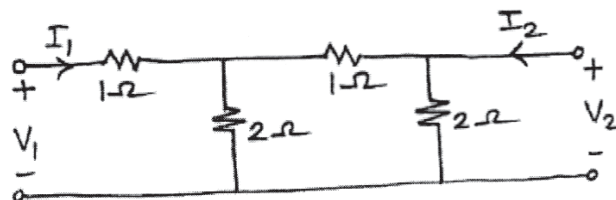

Fig. 10
b) Find Y parameters of the network shown in Fig. 10. [6]